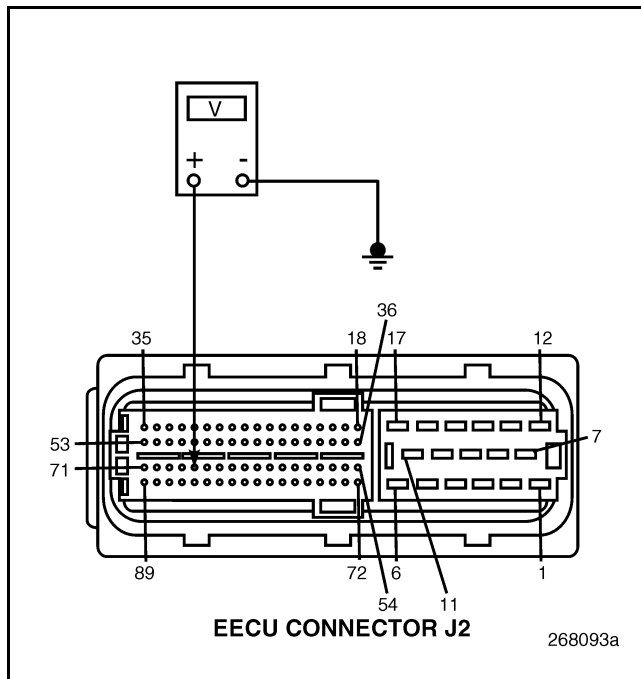

Figure 817
5. Measure the voltage between EECU connector J2 pin 67 and a good ground (see Figure 817).